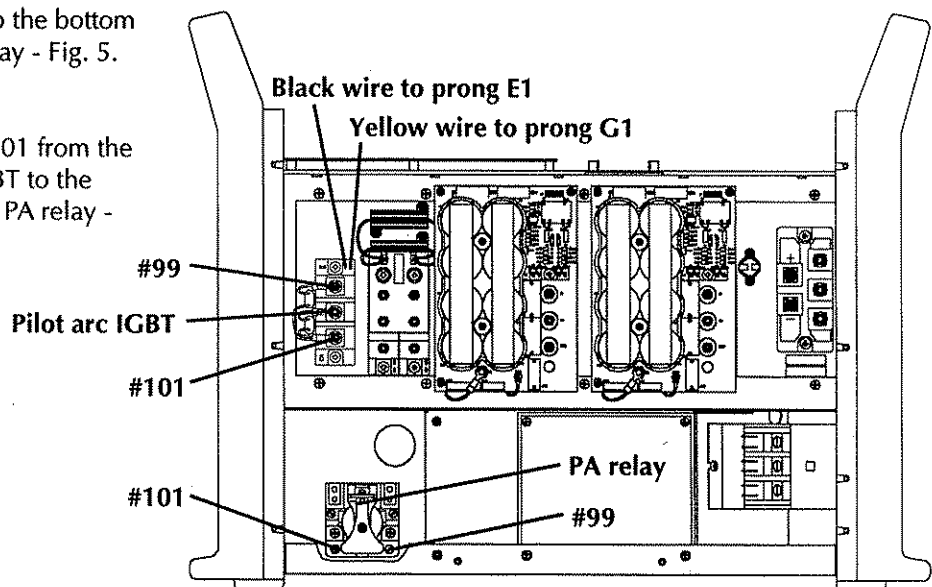

Figure 5 - Pilot Arc IGBT Connections - 1 of 3
9. Mount the pilot arc IGBT using the screws, lock washers and flat washers from the kit. Note: Be certain that the 2 small prongs (E1 and G1) on the IGBT are facing up - Fig. 5.
10. Attach the black wire from the PA control board to prong E1 (left) and the yellow wire to prong G1 (right) on the IGBT - Fig. 5.
11. Attach the wire labeled #99 from the top terminal of the IGBT to the bottom right terminal of the PA relay - Fig. 5.
12. Attach the wire labeled #101 from the bottom terminal of the IGBT to the bottom left terminal of the PA relay - Fig. 5.